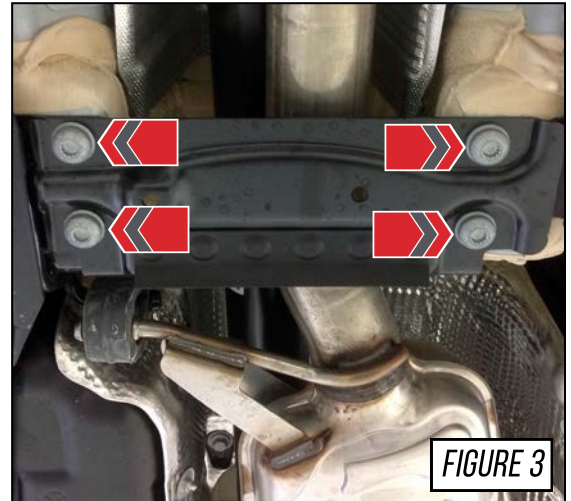

FIGURE 3
Remove the four (4) 10mm triple square bolts that secure the cross brace in place, as shown by the arrows in **Figure 3**.